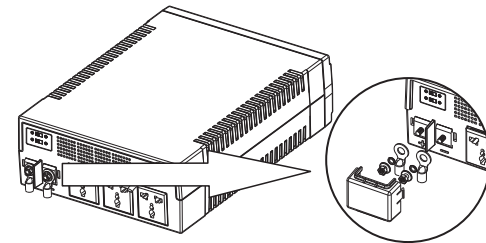

Fig.1 Battery cable connects to the inverter
Step 3- Tight the battery cables with the M5 nuts. Do NOT place anything between the flat part of battery terminal and the battery cable ring terminal, or overheating may occur. **(See Fig. 1)**